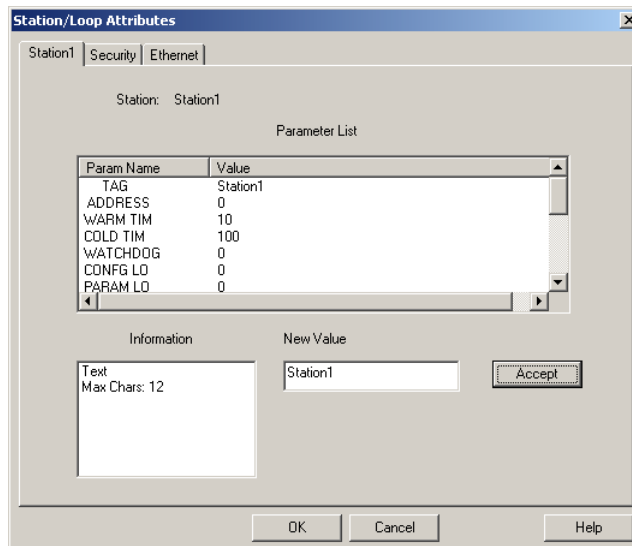

Figure 2-3 Station/Loop Attributes
3. Right click the station icon  and select Configure Item Attributes; See Figure 2-3. In the **New Value** text box, type a meaningful controller tag name to replace “Station 1” and click **[Accept]** and then **[OK]**.